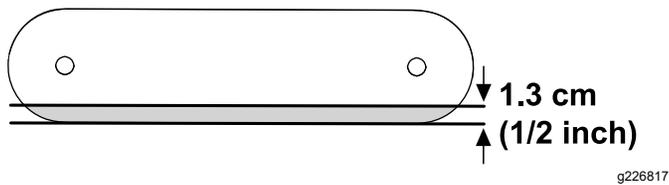

Figure 19
1. With the support plate removed, trim 1.3 cm (1/2 inch) back from the front face and remove the shaded area as shown in Figure 19.